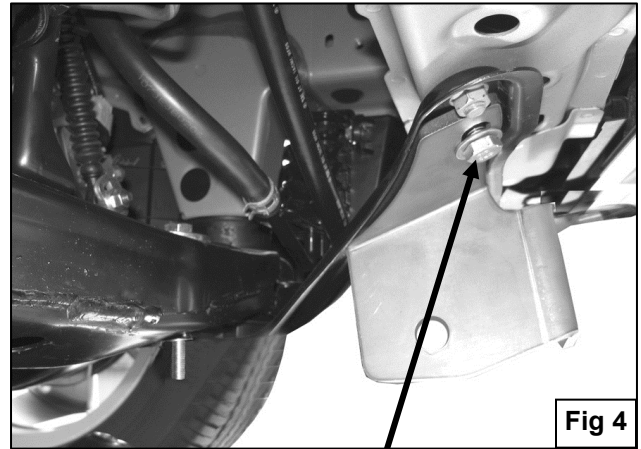

Fig 4
5. On the driver side of the vehicle, locate the two factory bolts on the cross member brace towards the bumper and remove the one towards the outside of the vehicle. Position the driver side Mounting Bracket up to the cross member brace. Partially hang Mounting Bracket to previously removed factory bolt location using the included (1) 10-1.25mm x 35mm Hex Head Bolt and (1) 10mm Flat washer (**Figure 4**). Do not tighten at this time.